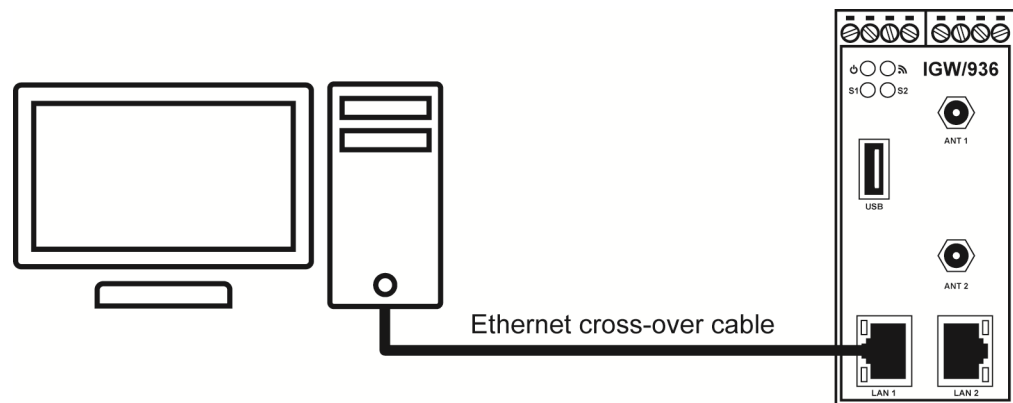

Figure 4: Ethernet link with cross-over cable
- Direct with an Ethernet cross-over cable like shown in **fig. 4**.
For the Ethernet connection in **fig. 4** it is absolutely required to use a **cross-over cable**. Do not use an ordinary patch cable. Ethernet patch and cross-over cables are in most cases visual indistinguishable. But the internal wiring is fully different. Mixing up these types of cables leads to LAN errors. Hence pay attention to the label of the cable or packing.